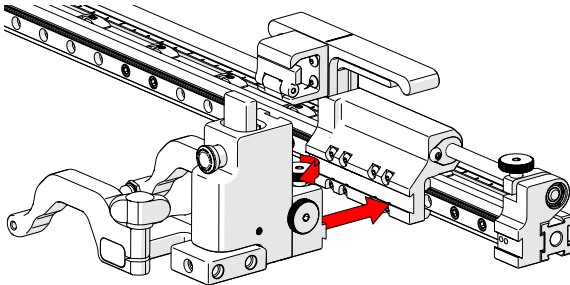

Fig. 34 - Mount probe holder to carrier
1. Loosen the probe holder adjustment knob (Fig. 34) and mount the heavy duty vertical probe holder's dovetail jaw to the carrier.